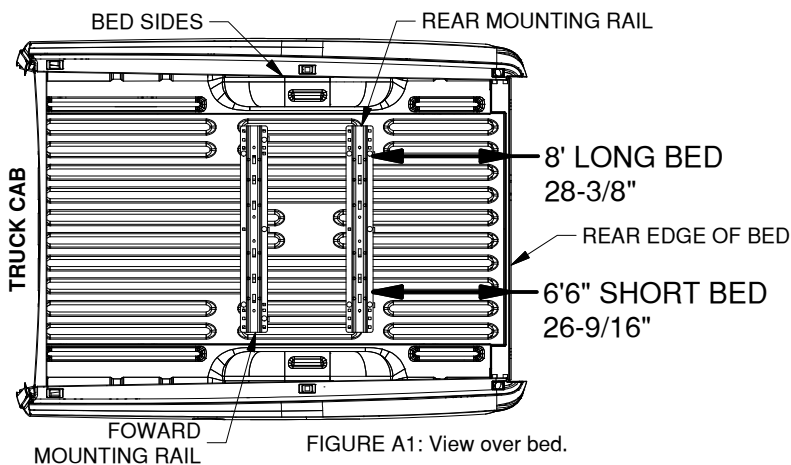

FIGURE A1: View over bed.
- 1. Layout the rear mounting rail.** Place a mounting rail onto the bed of the truck. Hook a tape measure over the rear edge of the bed (not on any part of the tailgate), measure the location for the mounting rail as shown in figure A1. Next, center the mounting rail in the bed by measuring the distance on either side from the edge of the rail to the sides of the bed. The rail will be centered when both measurements on either side of the rail are the same.